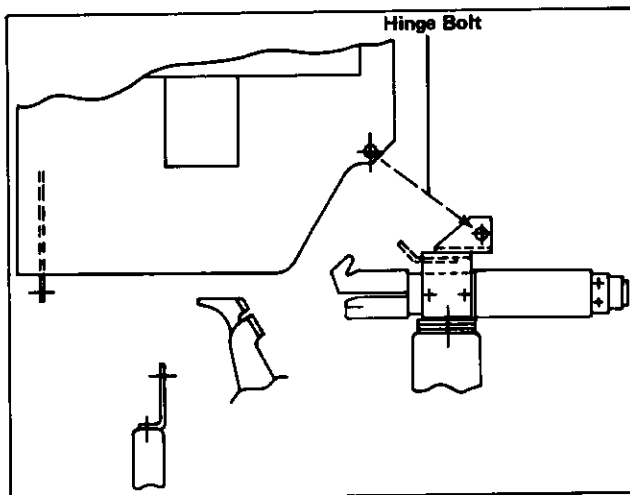

Fig. 64 Mount Arc Chute
**MOUNTING ARC CHUTES (FIG. 64)**